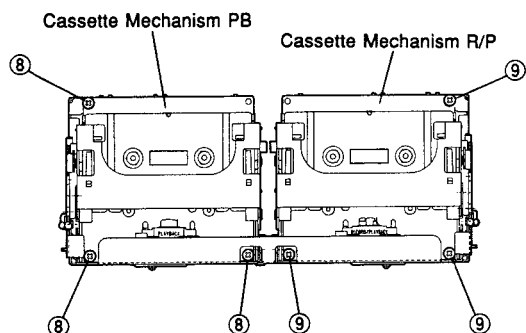

Fig. 3
- Remove 3 screws (⑧) and then remove the Cassette Mechanism PB in Fig. 3.
- Remove 3 screws (⑨) and then remove the Cassette Mechanism R/P in Fig. 3.